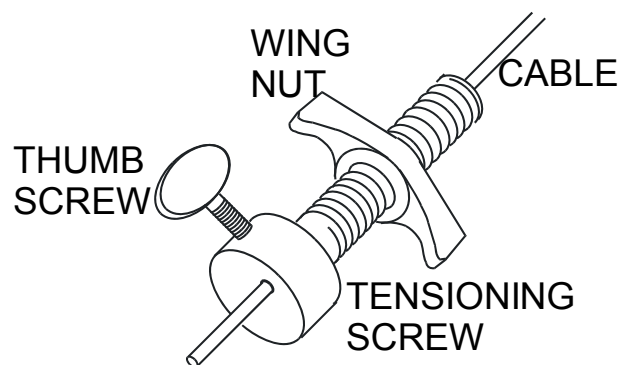

Figure 57
4. Feed each bare cable end into the hole at the threaded end of the cable tensioning screw (see **Figure 57**).
6. Whilst holding the cable tensioning screw in the box pull the cable taught and, without releasing the tension, tighten the thumb screw firmly (see **Figure 57**). Repeat this procedure with the other cable.